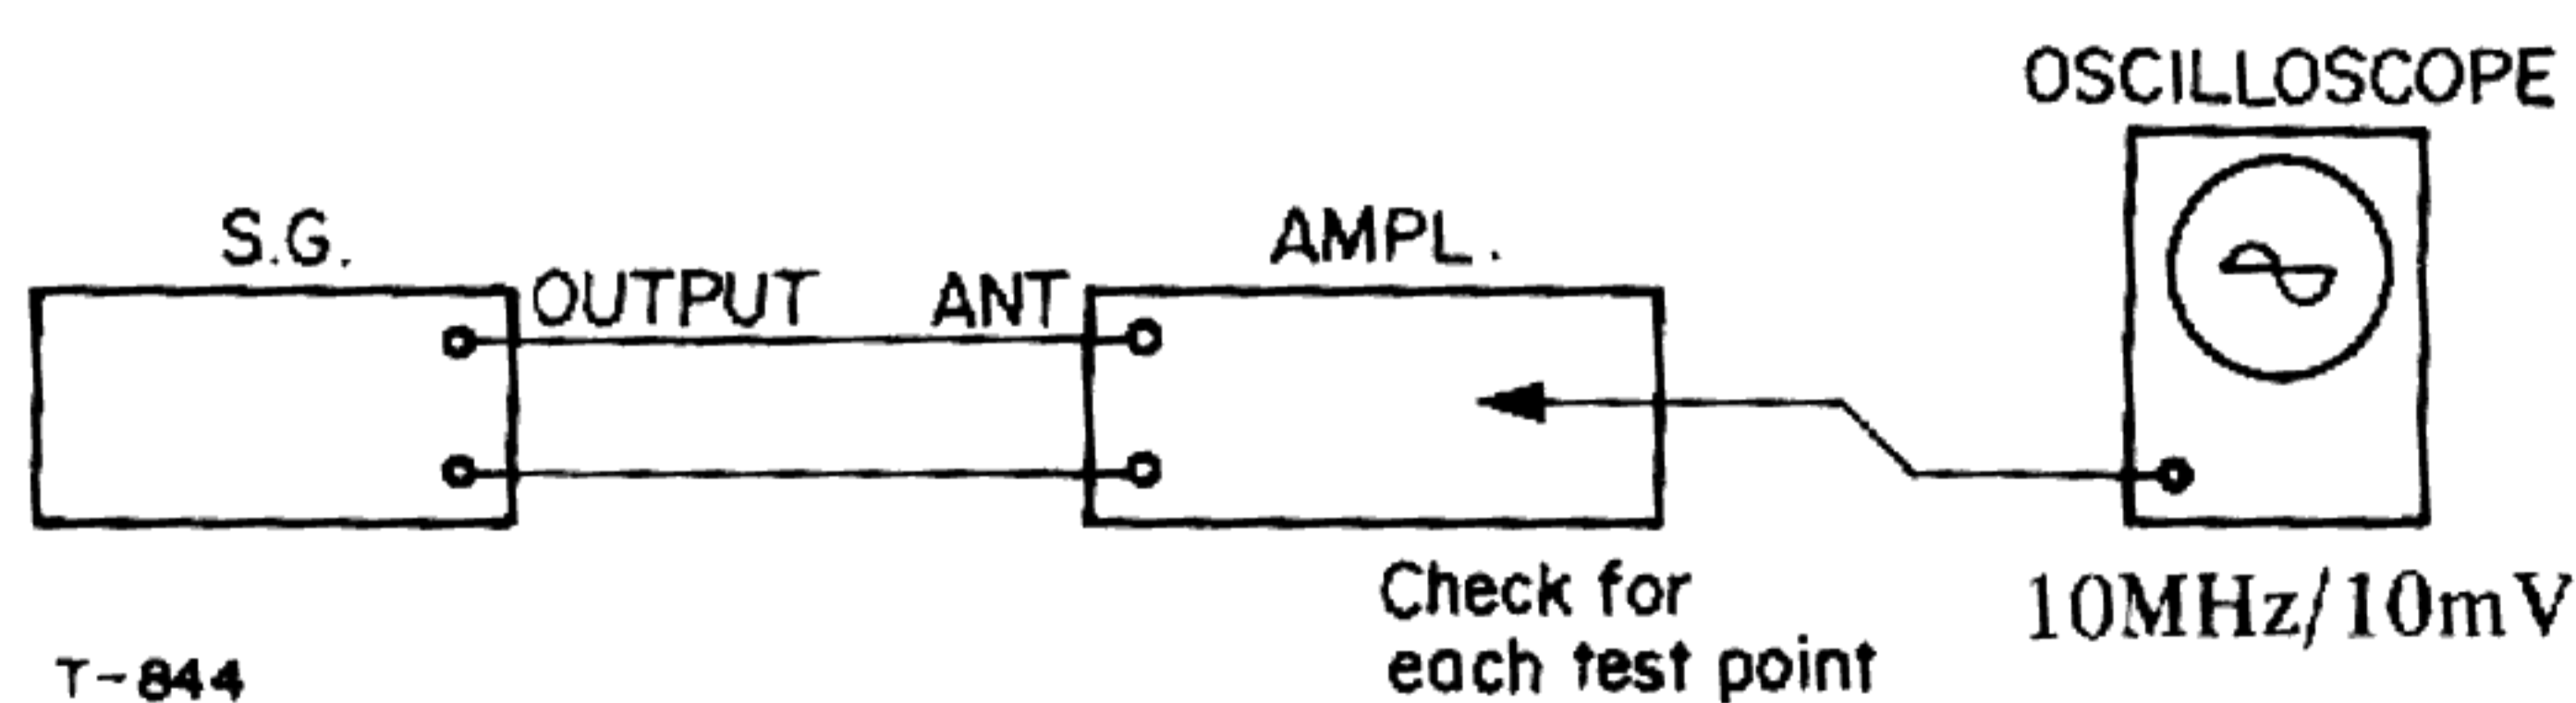

Fig. 13
- A. Connect an input signal to the 300 ohm ANT terminals. (See Fig. 13.) Use an oscilloscope connected to terminal 7 of the Front End circuit and check for the normal voltage and waveform FM given on the Front End schematic diagram.